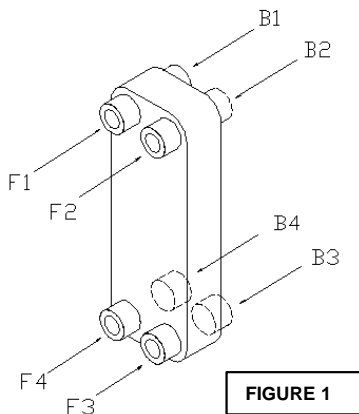

FIGURE 1
3. For single phase fluids, the heat exchanger can be mounted in any orientation that is convenient and should be piped in a counter current, parallel flow arrangement. For two phase fluids, the heat exchanger should be mounted vertically and piped as shown in Figure 1 and Table 1. Connections may be either on the front or back of the exchanger.